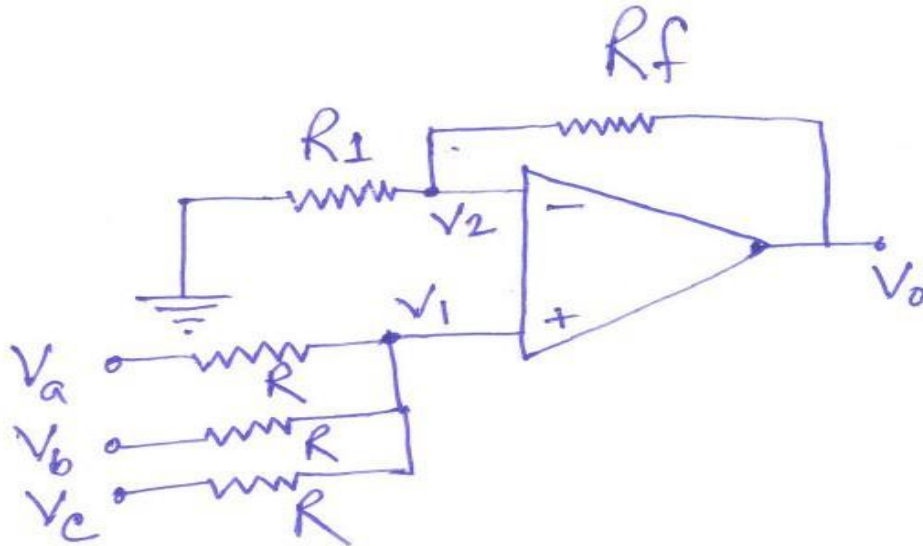

Fig.3.17 Non Inverting Summer Circuit
3.6.4.5 The configuration as shown in following Fig.3.17 can be used as a summing amplifier